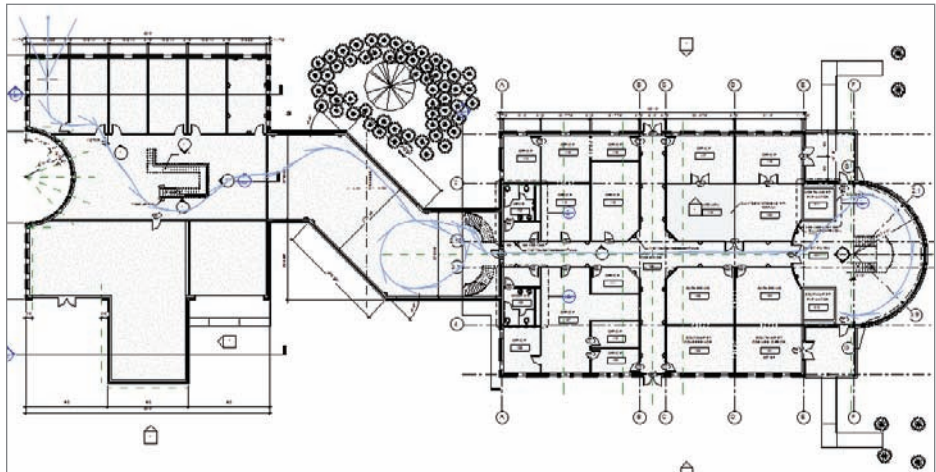

FIGURE 19.19 Sketching the walkthrough path
5. Keep picking points down the hallway, into the corridor, and into the west wing, as shown in Figure 19.19.